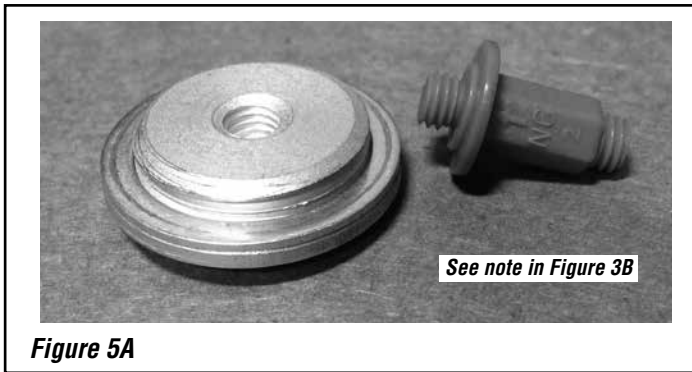

Figure 5A
Step 5A. Change the Stem Position on the Plug. See *Figures 5A and 5B*.